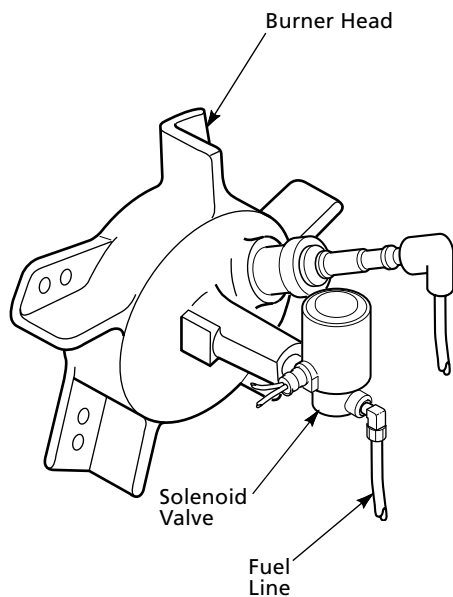

Figure 17 - Fuel Line at Solenoid Valve
2. Use 7/16" wrench and tighten fuel lines at solenoid valve, pump, and fuel filter canister (if equipped) (See Figure 17).